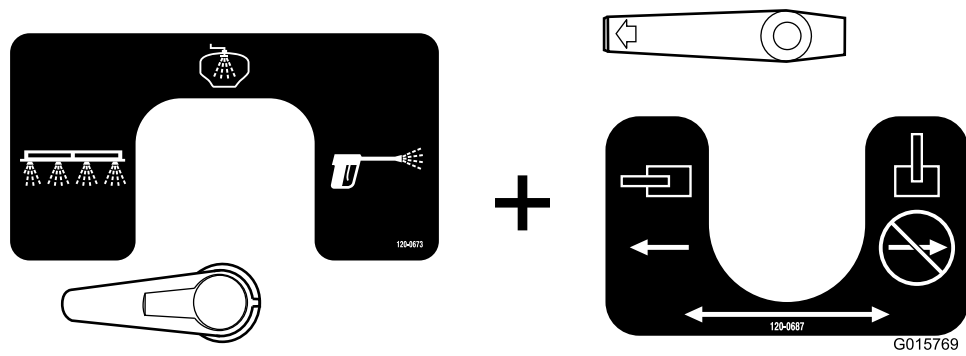

Figure 36
- This is the boom configuration (Figure 36). Use this configuration to spray rinse water out of the booms.